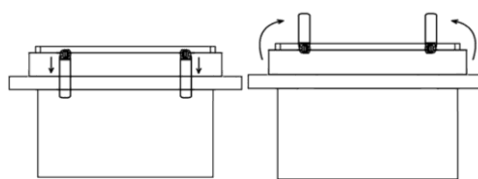

Figure 3: Flush Mount (SA)
- b) For Flush Mounting: Cut the ceiling opening to 335 x 55 mm and insert the luminaire into the ceiling by turning up the mounting springs as shown in Figure 3.